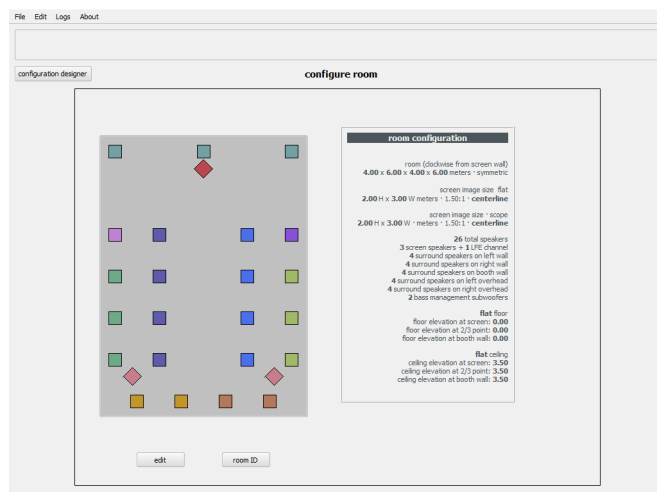

Figure 3-15 Room Configuration Summary
8. Click the **done** button at the bottom of the **configure room** screen. If your parameters are valid, the specified room configuration appears and the **done** button changes to an **edit** button, as shown in Figure 3-15. Clicking **edit** allows you to change any of your previously saved parameters.